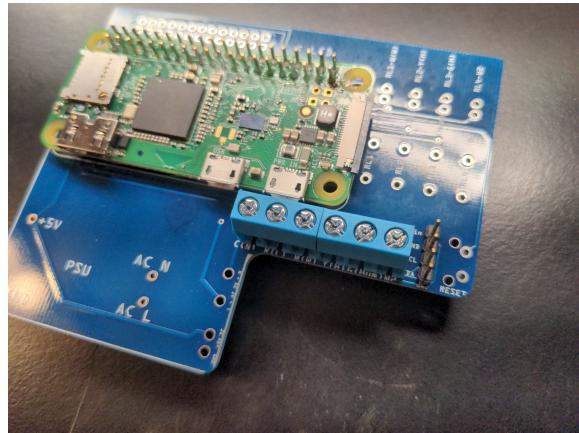

Figure 3: Terminal block and sensor headers in place
3. Put terminal block and sendor headers in place and solder them on (figures 3 and 4)